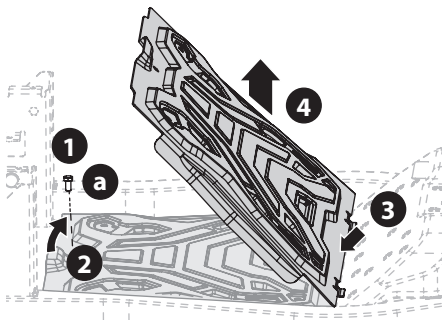

Figure 31
1. Using the multi-tool (if equipped) or a 1/2" socket, remove the hex screw (a) that secures the floor panel in place (Figure 31).